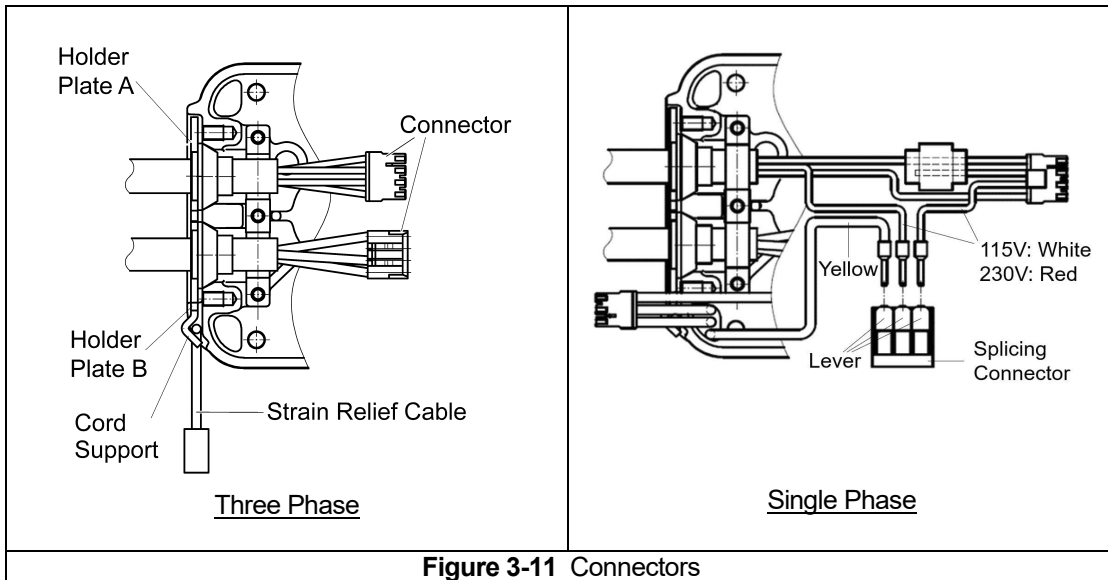

Figure 3-11 Connectors
- Disconnect the connectors inside the hoist (see **Figure 3-11**).
- Pull up the orange levers of the splicing connector attached on the Power Cable and disconnect all the three lead wires (yellow and white or red) (see **Figure 3-11**).
- ⚠ CAUTION** When mounting Holder Plate B, ensure that the Strain Relief Cable is secured by the Cord Support (see **Figure 3-11**).